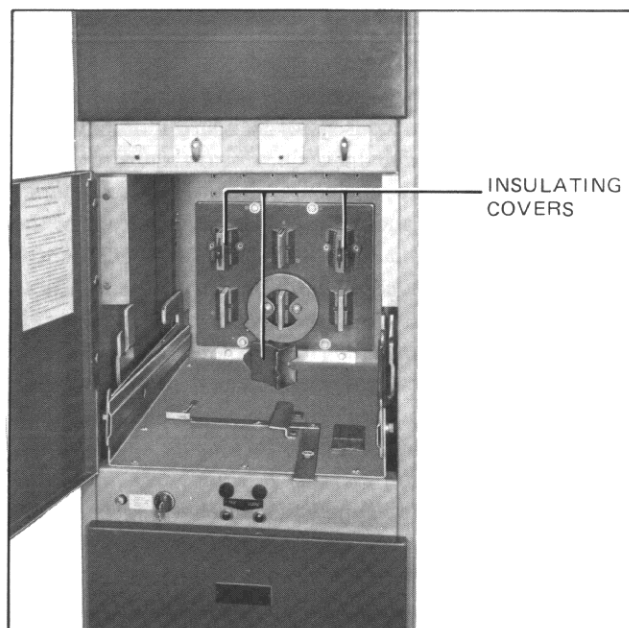

Fig. 23 *Insulating Covers for Main Stationary Disconnecting Contacts (384829)*
Other small devices, such as key interlocks control pushbuttons, indicating lights and test switches, can be mounted on these panels within their space limits. See Fig. 23.
1.2.2 Insulating covers or "boots" are furnished on live main stationary disconnecting contacts in compartments equipped for future breakers. One additional set is provided for each size breaker furnished. See Fig. 23.